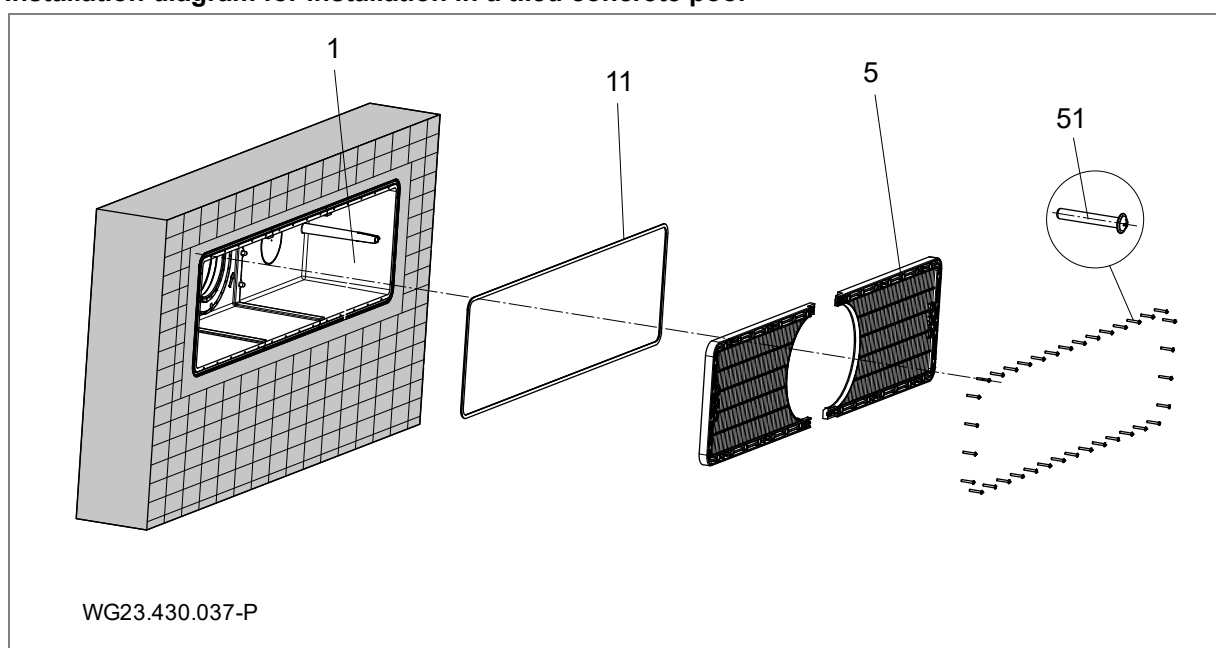

Fig. 8
It is recommended to lay a surrounding ring of epoxy resin/quartz sand at the pool-side outside wall of the housing (1) as a seal to the concrete wall. See "Fig. 8" on page 17